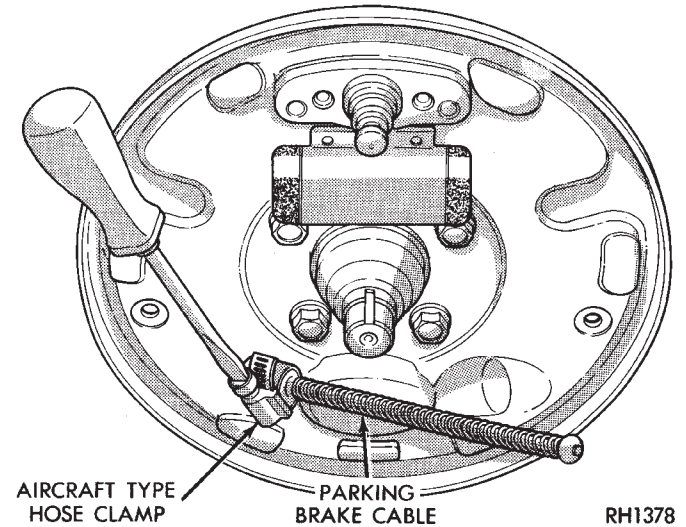

Fig. 4 Removing Brake Cable from Brake Support Plate
- (1) Loosen cable adjusting nut and disengage front cable from adjuster. Remove cable housing retainer from anchor bracket, by sliding a 14 mm box wrench over cable retainer and compressing the three fingers. Alternate method is to use an aircraft type hose clamp and screwdriver. This is similar to the method shown for removing the parking brake cable from the support plate (Fig. 4).
- (2) Remove cable guide brackets from frame rail and loosen cable housing at pedal assembly.
- (3) Lift floor mat for access to floor pan and force seal out of hole (into vehicle).
- (4) Pull park brake cable strand end forward and disconnect button from clevis. Tap cable housing end fitting out of pedal assembly bracket.
(5) Pull park brake cable assembly into vehicle through hole in floor pan.
(1) With vehicle jacked up on suitable hoist remove wheel and tire.
(2) Back off cable adjusting nut to provide slack and disconnect rear cable from equalizer bracket.
(3) To remove cable from anchor bracket. Remove cable housing retainer from anchor bracket by sliding a 14 mm box wrench over retainer end compressing the three fingers. Alternate method is to use an aircraft type hose clamp and screwdriver. This is similar to the method shown for removing the brake cable from the brake support plate (Fig. 4).
(4) Remove cable wrap-around clips where applicable.
(5) Disconnect cable guide wires where applicable.
(6) Remove brake drum and hub from spindle.
(7) Disconnect cable from brake internal lever.
(8) Remove park brake cable housing retainer from the brake support plate. Use the same method for removing cable retainer from brake support plate as